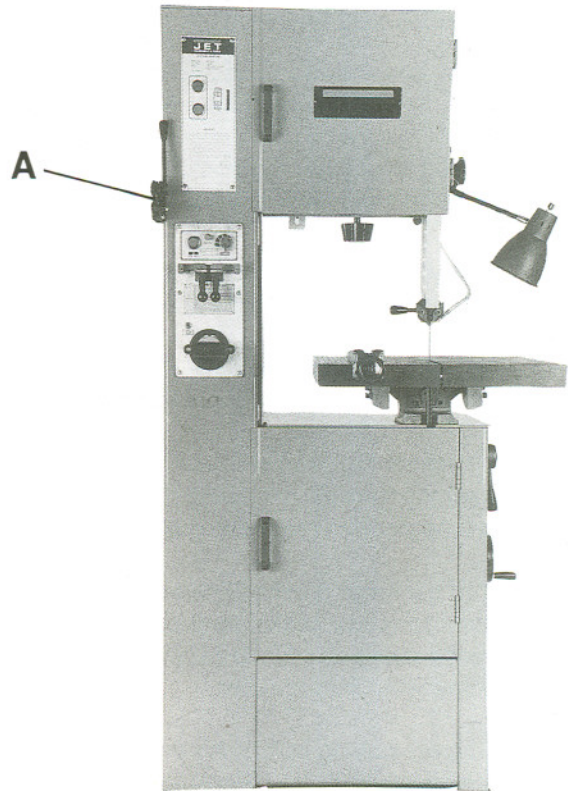

Figure 1
3. Remove two hex cap screws from left side of the vertical column. Attach shear assembly (A, Fig. 1) to column by inserting hex cap screws.